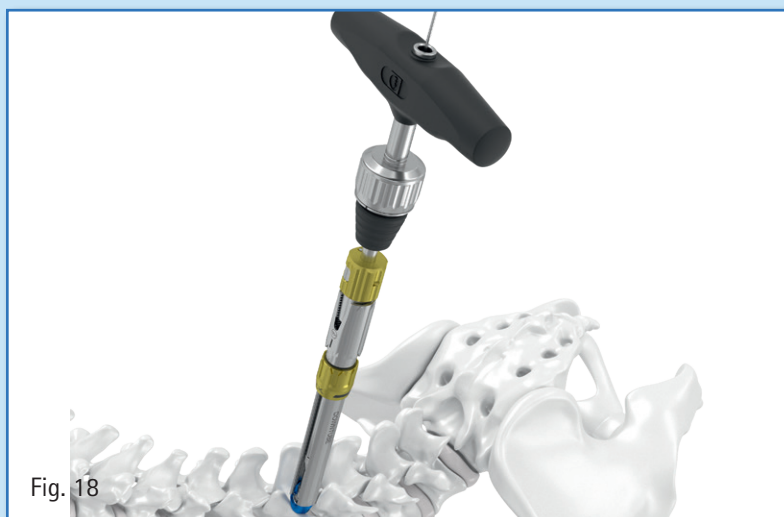

Fig. 18
- Insert the screw to the appropriate depth (Fig. 18). Remove the K-Wire after the screw tip has entered the vertebral body to avoid driving the K-Wire ventrally to vertebra. If needed, fluoroscopic guidance can be used.